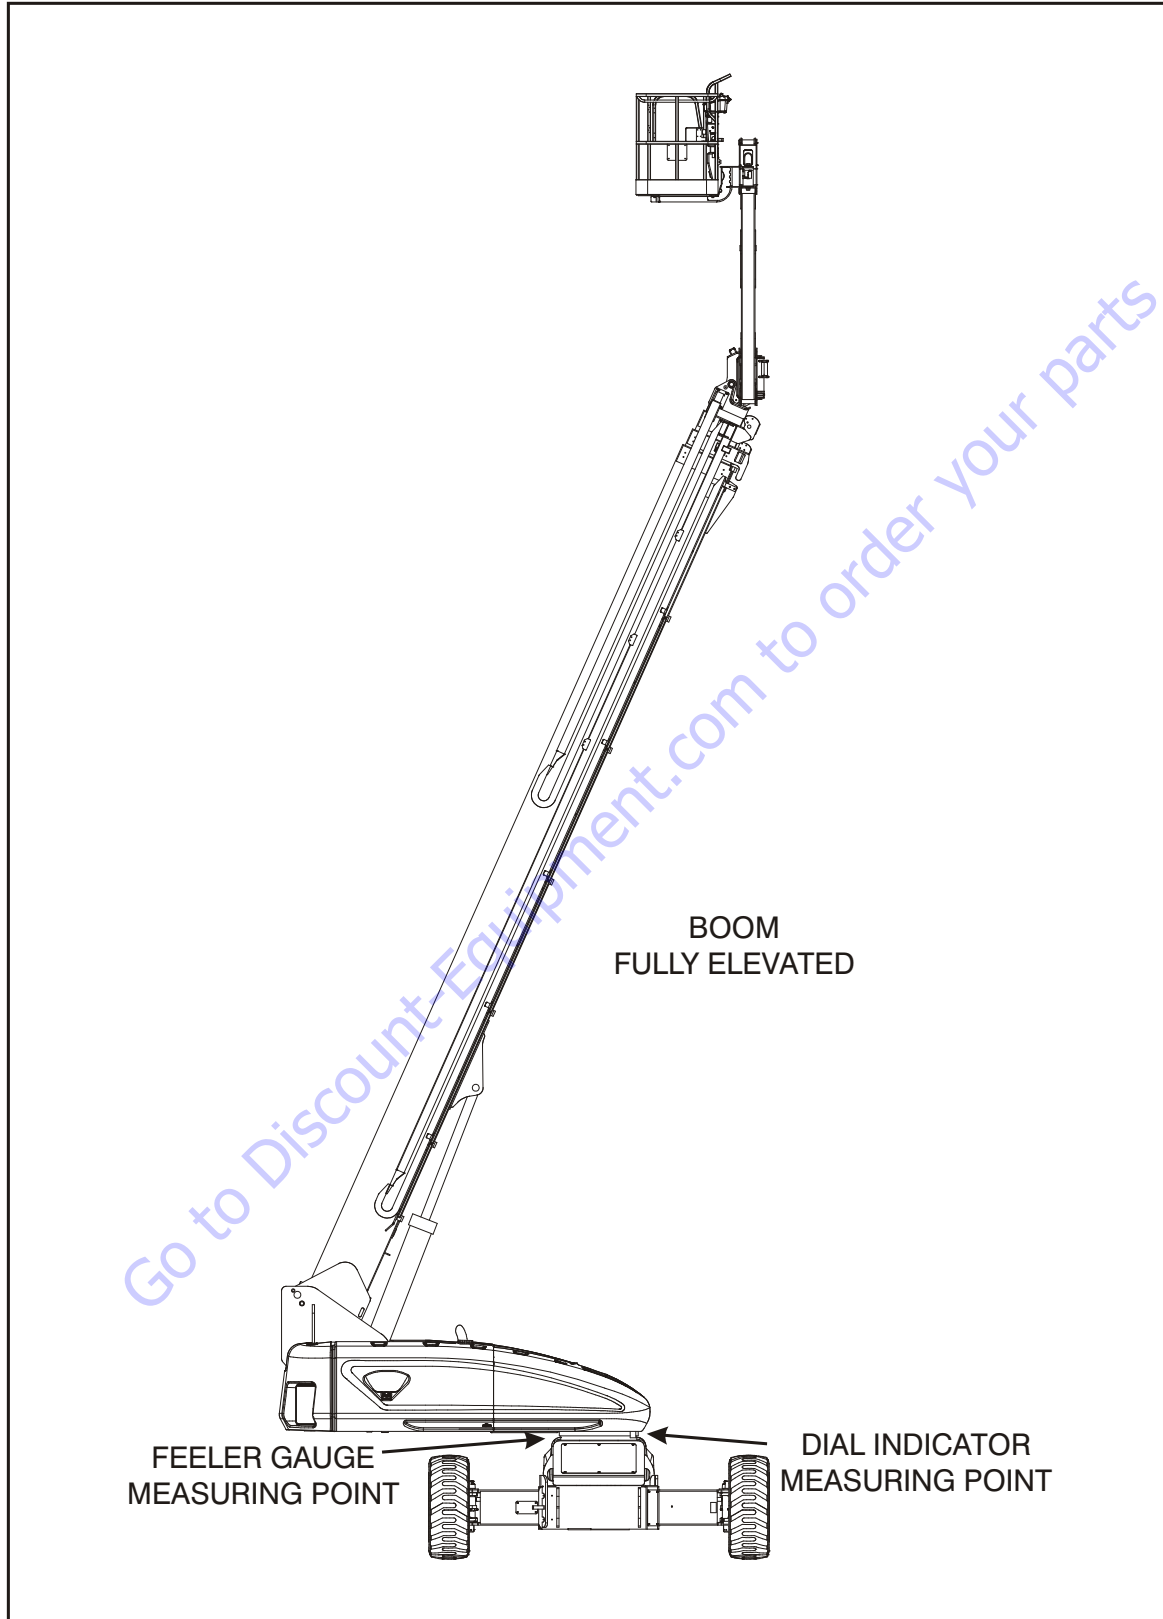

Figure 3-44. Swing Bearing Tolerance Boom Placement - Sheet 1 of 2
- a. Fully elevate the main boom. (See Figure 3-44.)
- b. At the position indicated on Figure 3-44., try to insert a 0.0015 feeler gauge between the bolt and hardened washer at the arrow indicated position.
1. From the underside of the machine, at rear center, with the main boom fully elevated and fully retracted, as shown in Figure 3-44., Swing Bearing Tolerance Boom Placement - Sheet 1 of 2, set up a magnetic base dial indicator as shown below and set the indicator to 0 (zero).